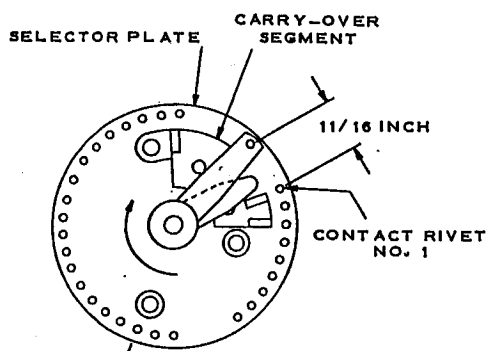

Figure 22. Wiper Arm Radial Adjustment.
2. Set the contact arm on the shaft so that center of outermost contact of the arm is approximately 11/16" away from the center of the first contact on selector plate, see *Figure 22*.
* Contacts "WD", "WF", "WG", and "WK" close before innermost contact of wiper arm leaves carryover segment on selector plate assembly. (Figure 22)
† Contacts "WD" remain closed until after innermost contact of wiper arm again reaches carryover segment on selector plate assembly. (Figure 22)